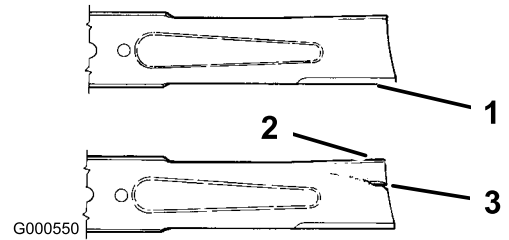

Figure 37
1. Inspect the cutting edges (Figure 37). If the edges are not sharp or have nicks, remove and
2. Inspect the blades, especially the curved area (Figure 37). If you notice any damage, wear, or a slot forming in this area (item 3 in Figure 37), immediately install a new blade.